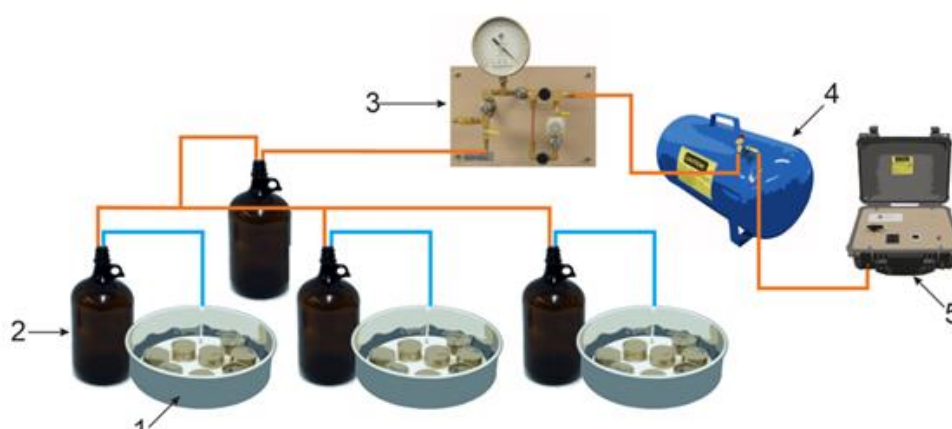

Figure 1. MCT75 system schematic. Orange = vacuum lines; blue = water drainage lines.
3. **Connect the orange vacuum lines.** Connect the vacuum ports of the three primary traps to the common vacuum network. Install the extra 4-liter safety water trap in the common line as shown in Figure 1.